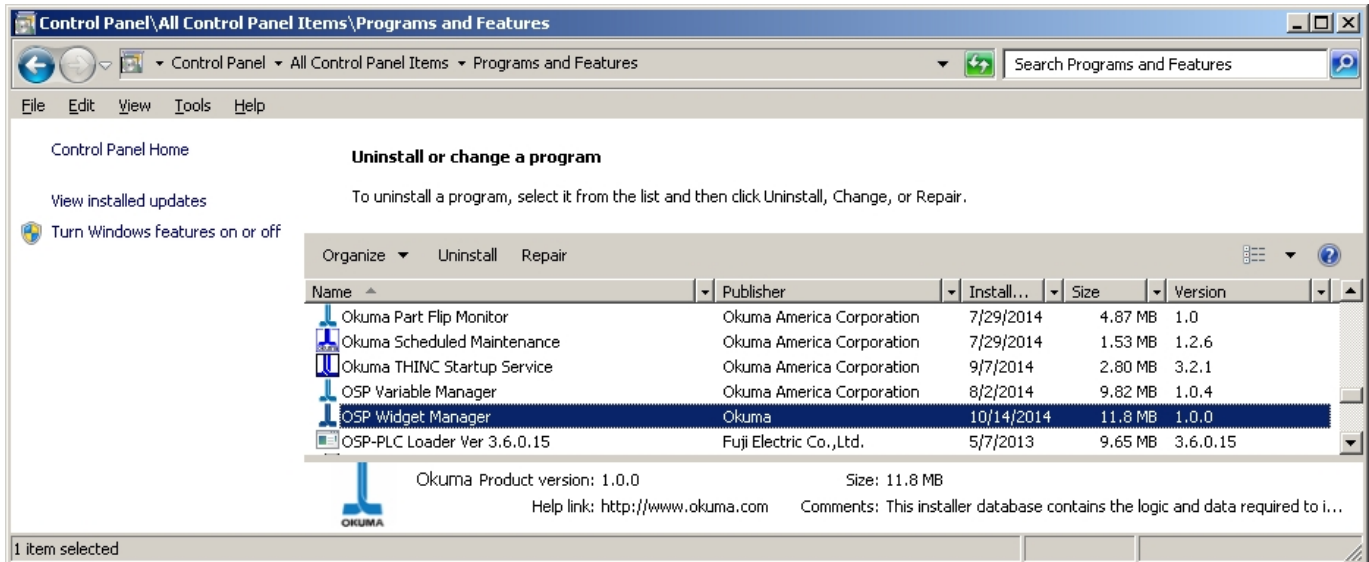

Figure 3-2
To uninstall OWM, find the application in the Windows ‘Add / Remove Programs’ window (XP) or the ‘Programs and Features’ window (Windows 7) as seen in **Figure 3-2**. Select ‘OSP Widget Manager’ from the list and double-click it, or click the uninstall button.